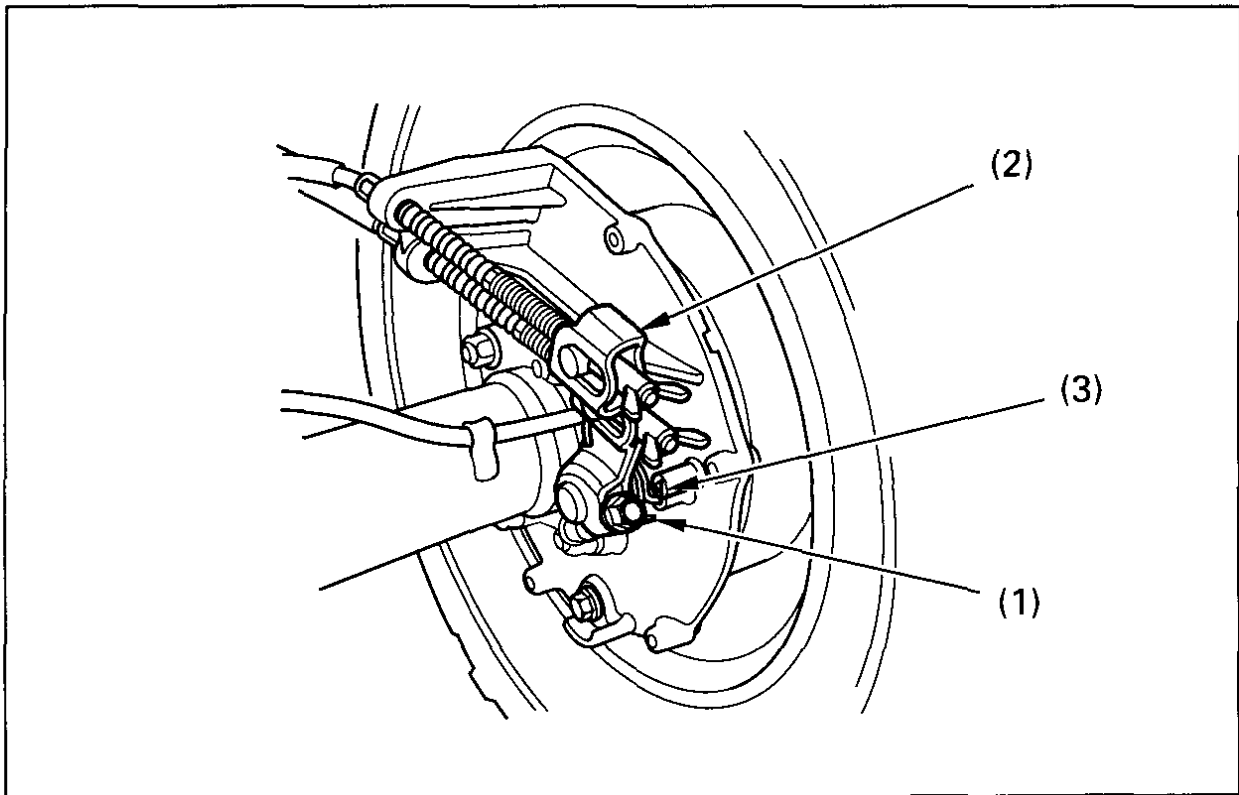

Fig. 4-31
When the brake is applied, an arrow (1) attached to the brake arm (2) moves toward a reference mark (3) on the brake panel (see Fig. 4-31).